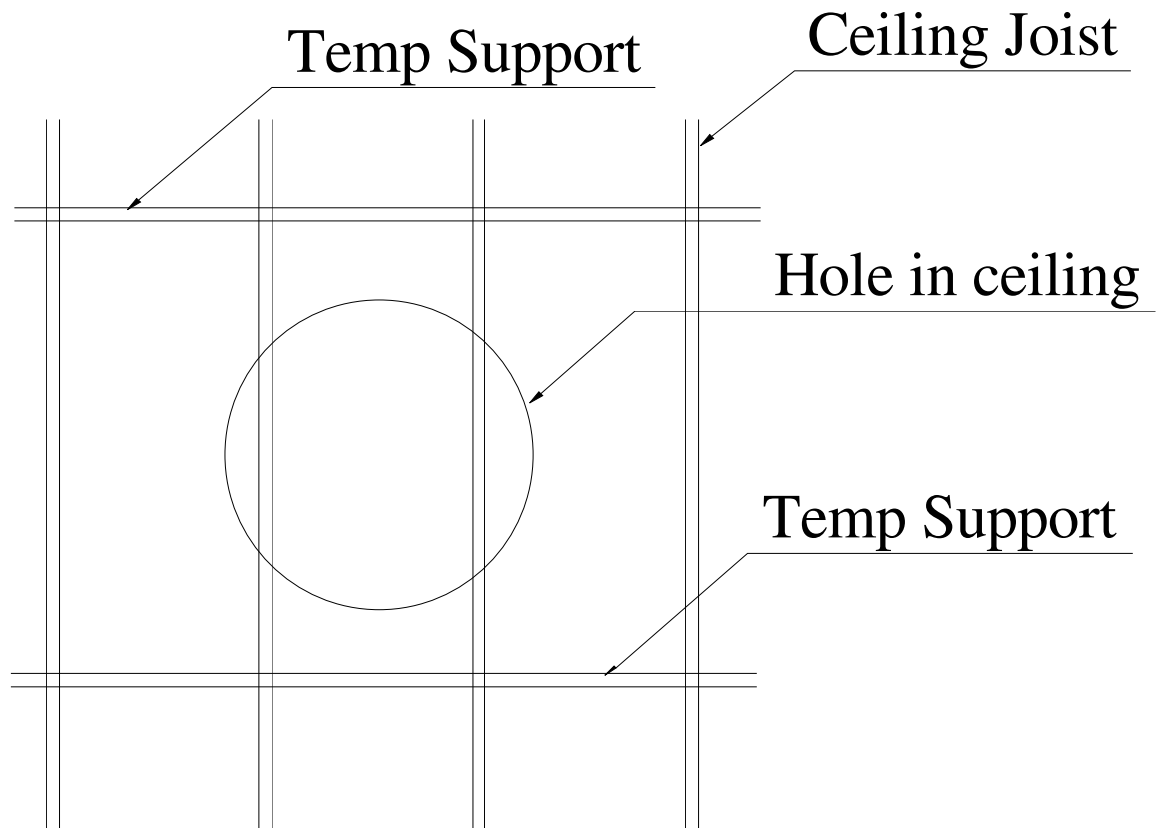

Figure 2
- iii) Now curtail the joists that protrude into the skylight opening and cross trim. Line up trimmers level with the side of the dome opening. See figures 2 & 3